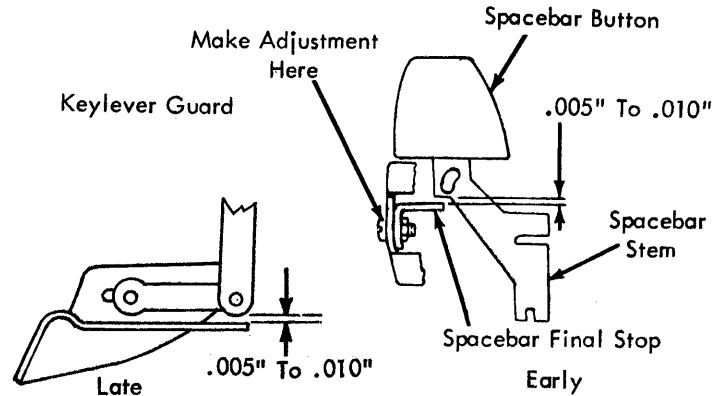

FIGURE 192. Spacebar Final Stop
- 6. Spacebar Final Stop - Adjust or form the stop to obtain .005" to .010" clearance between the stop and the spacebar center stem with the spacebar depressed to just trip the spacebar interposer (Fig. 192). On cur-